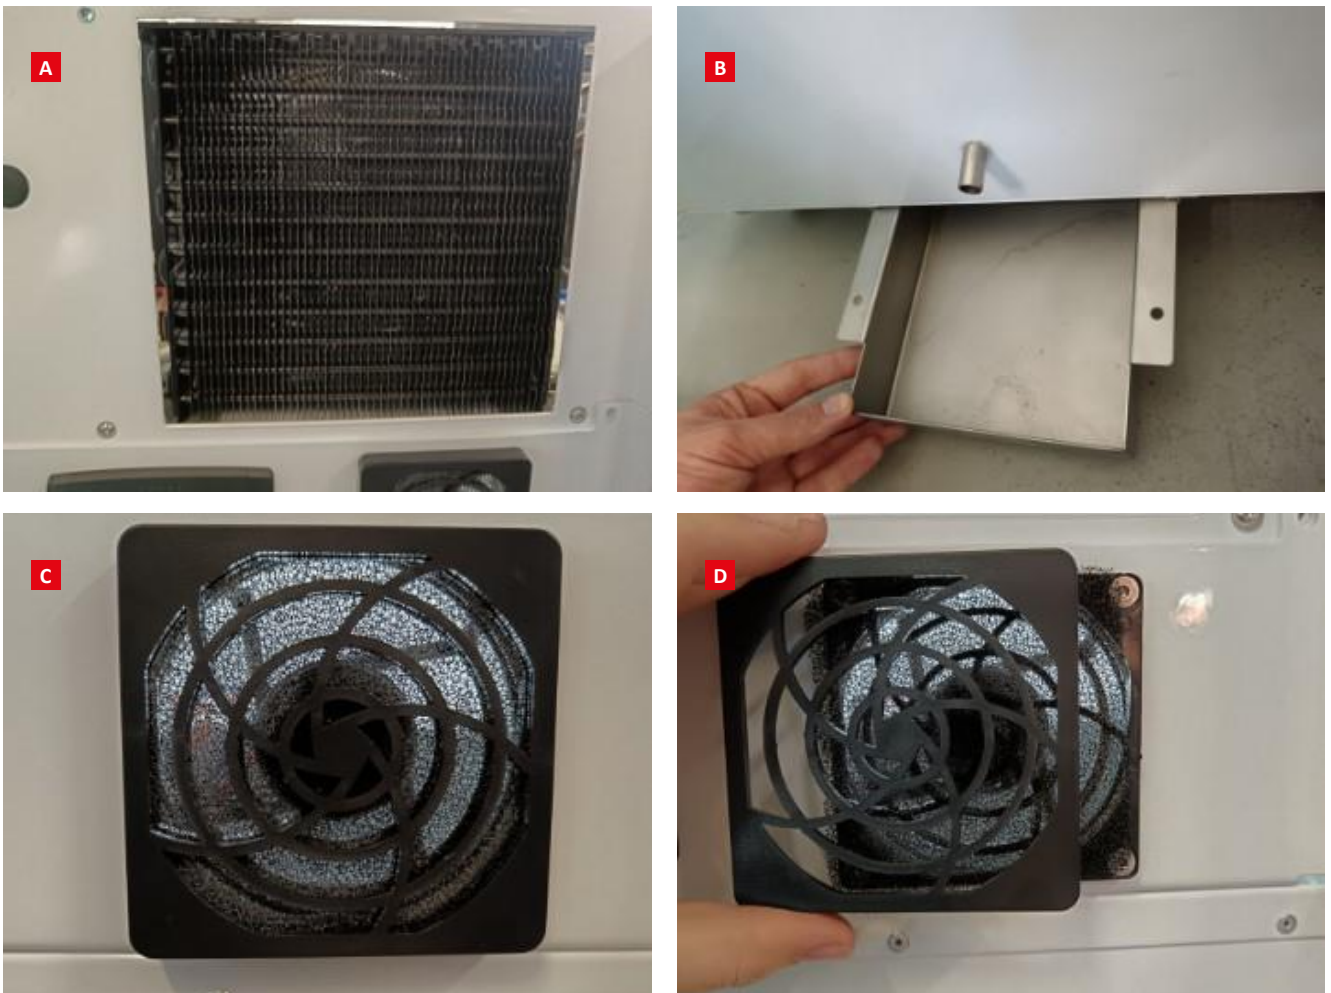

Fig. 26 Parts maintenance.
- Clean the compressor evaporator twice a year using a vacuum cleaner (Fig. 26 [A]). The evaporator is located on the back side of the device.
- Check and empty the drip tray regularly as needed (Fig. 26 [B]). The tray is located at the bottom back side of the device and collects condensed water generated during cooling cycles.
- Check the fans cooling the **Main** LED light panel at least every two months (Fig. 26 [C, D]). Dust can accumulate on the protective mesh, reducing cooling efficiency. To clean, first remove the fan cover to access the mesh.